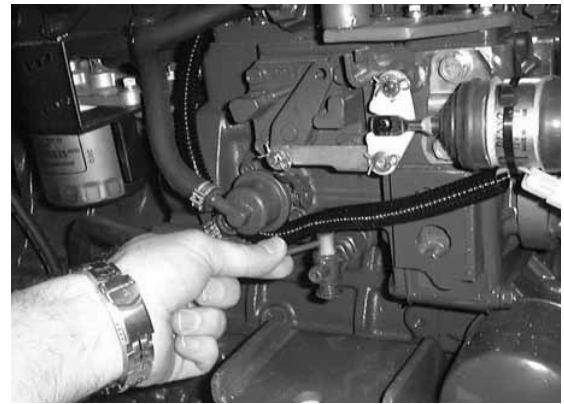

Fig. 2l
- Check that the drain tap or plug is turned off. (see fig 2l)